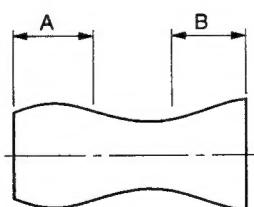

Fig. 2-7-8 Adjusting section
- If the A section in Fig. 2-7-8 does not meet the specifications, adjust the S guide roller in up or down direction.
- If the B section in Fig. 2-7-8 does not meet the specifications, adjust T guide roller in up or down direction.